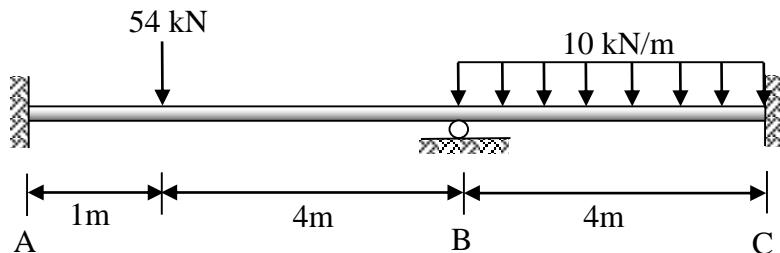

Figure A1(a) / Rajah A1(a)
- (a) **Figure A1(a)** show a continuous beam is subjected to a point load and distributed load. Calculate internal moment at support A, B and C by using the Slope Deflection Method.